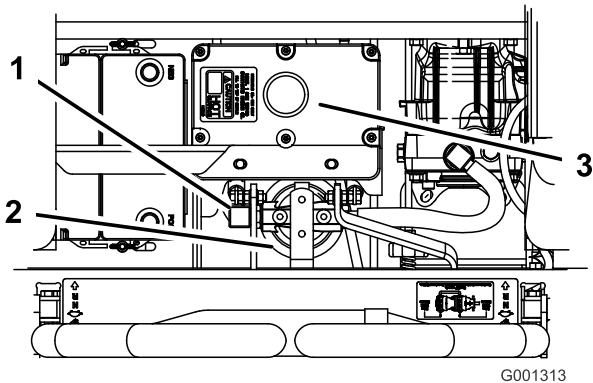

Figure 72
4. Remove the righthand hydraulic line that comes into the adapter (Figure 72).
6. Install the righthand hydraulic line to the adapter (Figure 72).